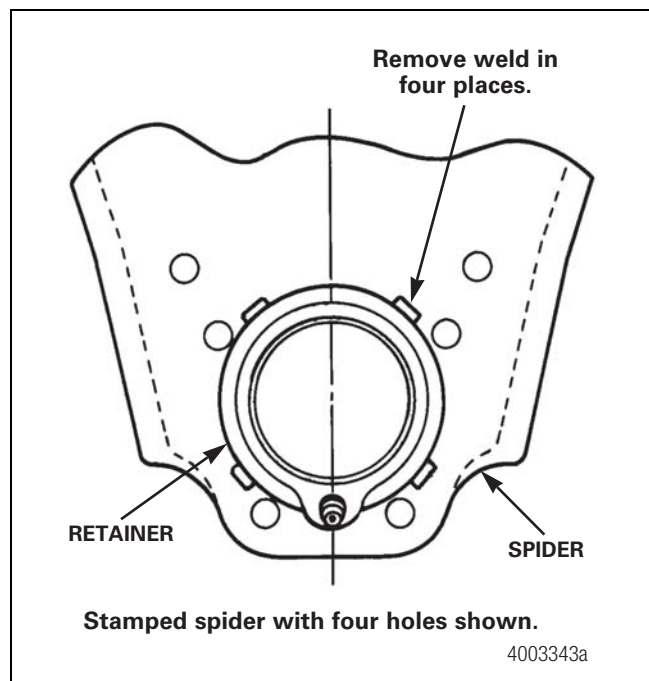

Figure 12.43
2. Grind the welds that attach the retainer to the spider. Grind only to the base metal of the spider. Position the grinding toward the retainer, since this item will be scrapped. Figure 12.43.